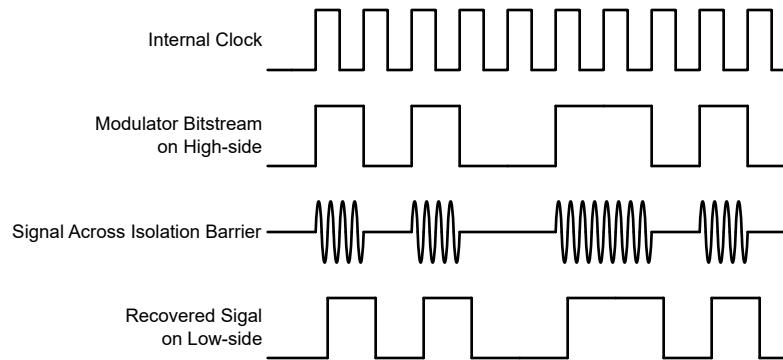

Figure 7-4. OOK-Based Modulation Scheme
As shown in Figure 7-4, the AMC0x03M2510 uses an on-off keying (OOK) modulation scheme to transmit the modulator output bitstream across the SiO₂-based isolation barrier. The transmit driver (TX) is illustrated in the Functional Block Diagram. TX transmits an internally generated, high-frequency carrier across the isolation barrier to represent a digital one. However, TX does not send a signal to represent a digital zero. The nominal frequency of the carrier used inside the AMC0x03M2510 is 480MHz.